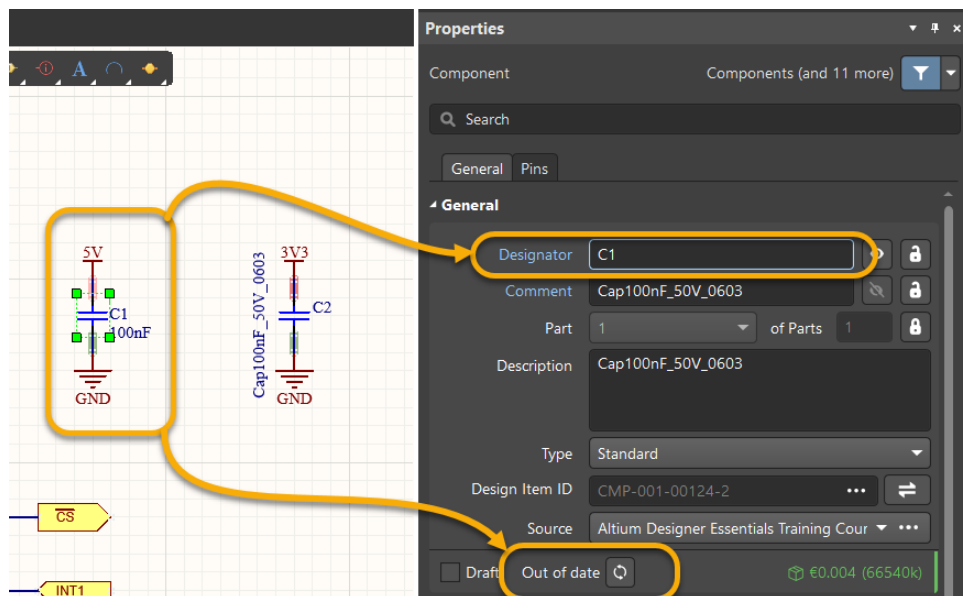

Figure 5. Component is Out of Date
25. Select C1 and check the status information at the *Properties* panel, the component status shows it is *Out of date* and does not match the component in the library, Figure 5.